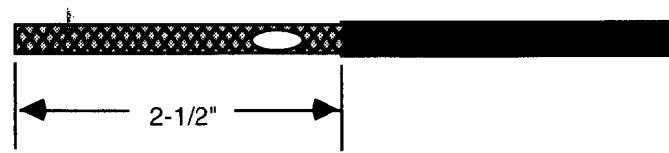

FIGURE 2
4. Prepare split lead on coax in accordance with Figure 2 and 3. RG-8U coax is recommended.